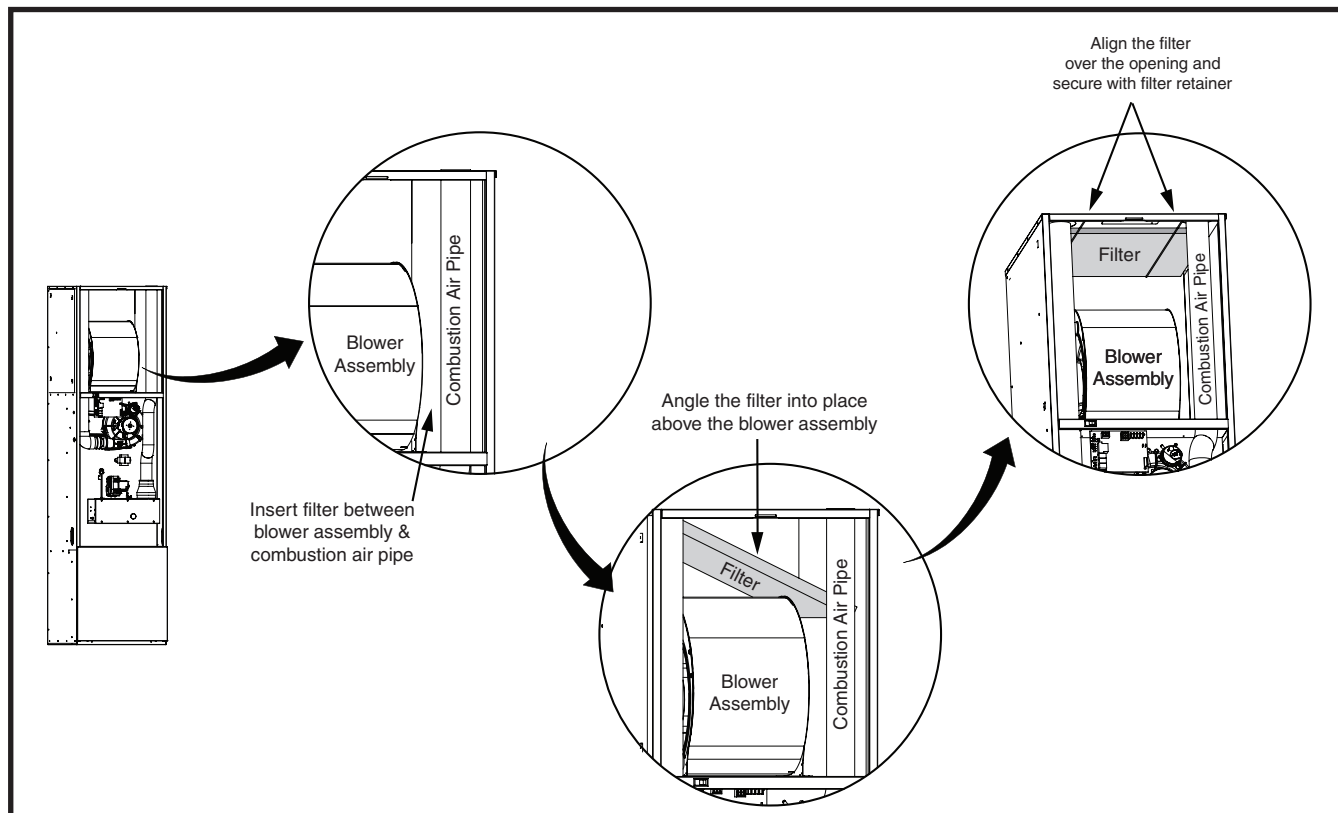

Figure 8. Filter Installation
1. Slide the standard 18"x18"x1" filter into the space between the combustion air pipe and the blower assembly. See Figure 8 \(page 12\). **NOTE:** Make sure the airflow arrows on the filter point towards the blower assembly.
4. Evenly align the filter over the opening in the top of the furnace cabinet and position the other end of filter retainer up over the flange in the furnace's top panel. **NOTE:** To properly secure the filter, make sure the filter retainer is properly positioned in the top panel of the furnace. There should be no visible air gaps. The retainer may slide left or right slightly, but must not have any movement between the front and rear. See Figure 8.